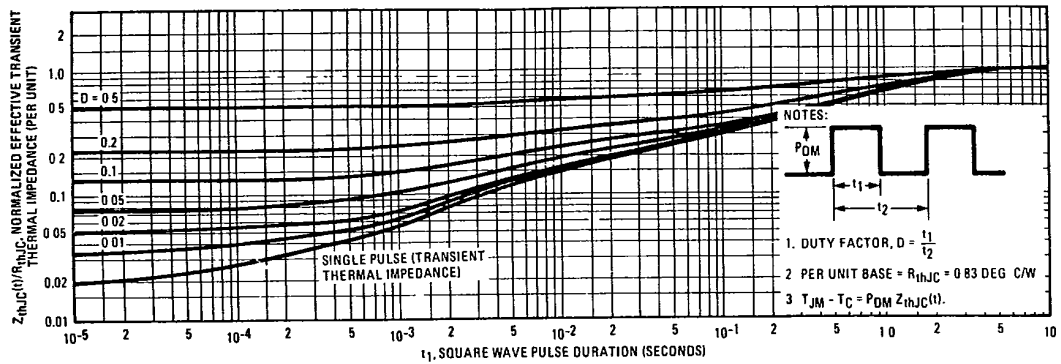

Fig. 5 - Maximum Effective Transient Thermal Impedance, Junction-to-Case Vs. Pulse Duration
① T_J = 25°C to 150°C. ② Pulse Test: Pulse width < 300μs, Duty Cycle < 2%.
③ Repetitive Rating: Pulse width limited by max. junction temperature. See Transient Thermal Impedance Curve (Fig. 5).